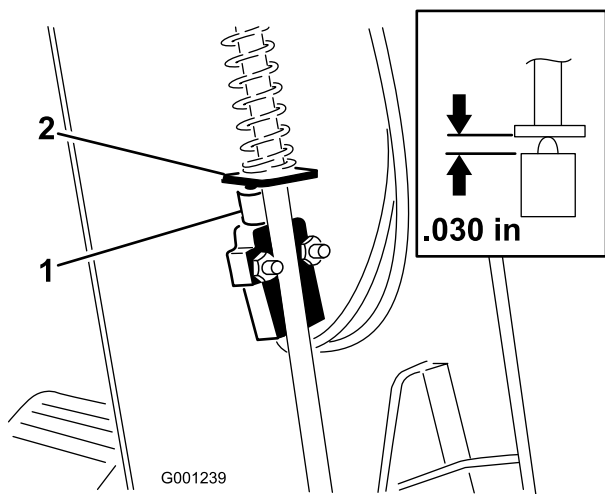

Figure 62
3. Slide the cover up the steering shaft to expose the PARKING BRAKE switch (Figure 62).
5. Align the parking brake rod paddle with the switch plunger (Figure 62)
6. Press down on the parking-brake rod and push up the switch until the compressed length of the switch plunger is 0.7 mm (0.030 inches) (Figure 62, inset).